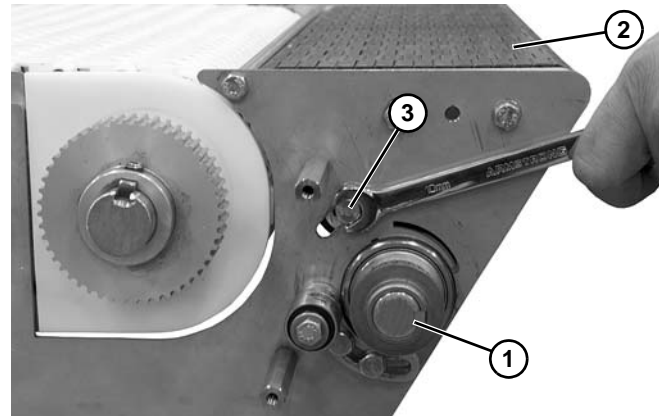

Figure 81
11. Rotate drive shaft (**Figure 81, item 1**) to verify tightness of belt (**Figure 81, item 2**). Belt should turn freely. Loosen hex head screw (**Figure 81, item 3**) on both sides and adjust, if necessary.